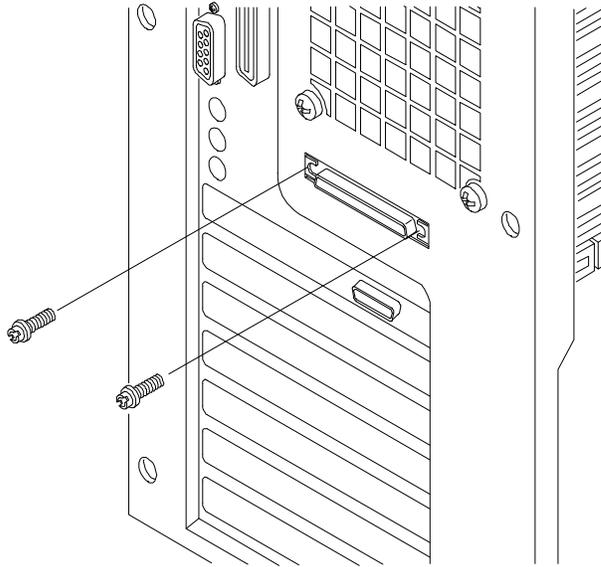

Figure 4-7. Connecting the Cable to the Rear of the System
2. Using a flat blade screwdriver, pop out the external SCSI knock-out at the rear of the system (see Figure 4-7 for location).
4. Install the external connector end of the cable to the rear where the knockout was removed and insert the two threaded studs from the outside (see Figure 4-7).